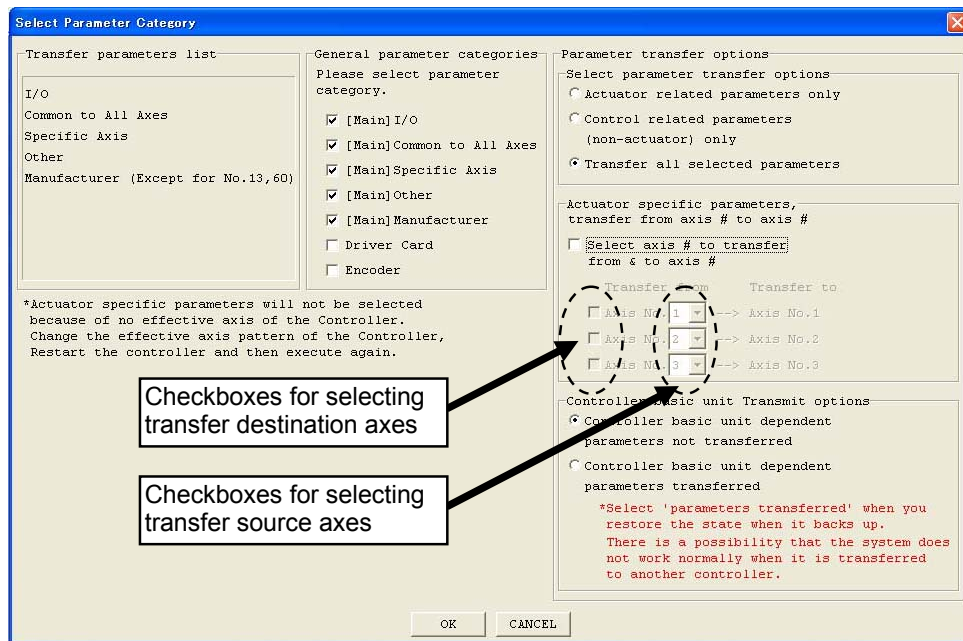
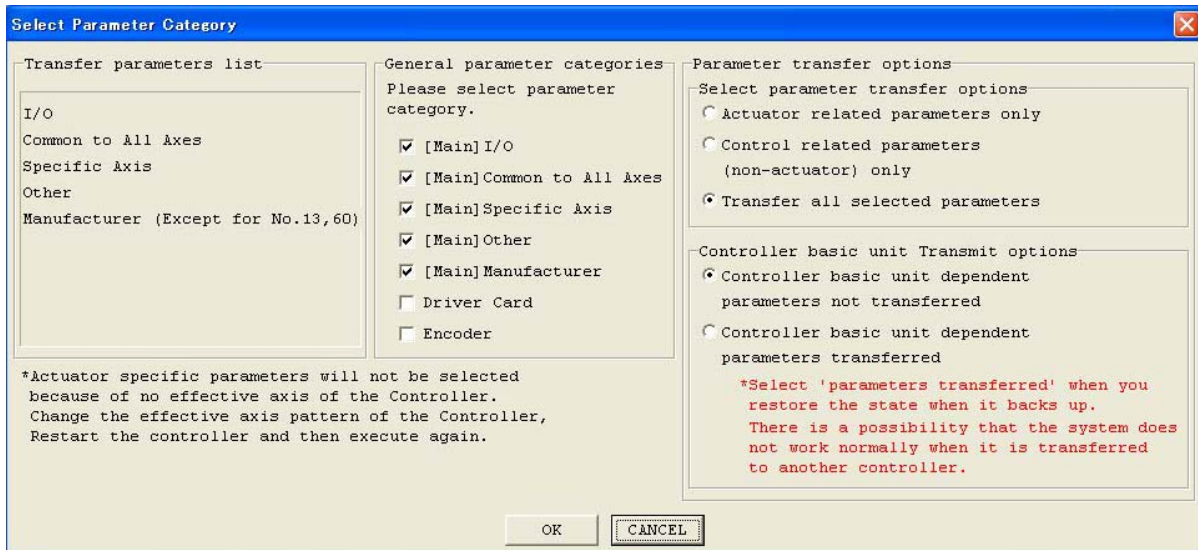
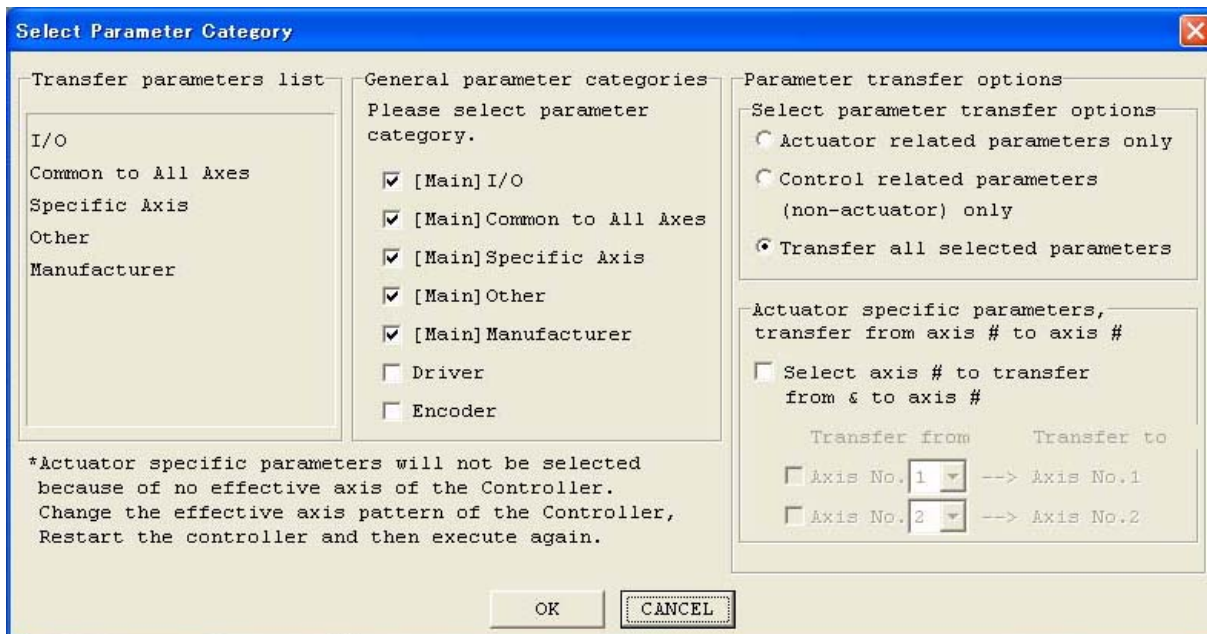

Fig. 8.7 Select Parameter Category Window
Fig. 8.8 Select Parameter Category Window (X-SEL-JX/KX)
Fig. 8.9 Select Parameter Category Window (SSEL, ASEL, PSEL)
- (1) Select **Open** from the **File** menu or click the corresponding button in the toolbar. In the file selection dialog box, select the parameter file (extension: .xpm) you want to transfer to the controller. Load the file into the PC software and open the parameter edit window.
- (2) Click the Transfer to Controller button in the parameter edit window.
- (3) The Select Parameter Category window (Fig. 8.7) will be displayed. In the case of X-SEL-JX/KX, the screen not showing Actuator specific parameters, transfer from axis # to axis # (Fig. 8.8) will be displayed. In the case of SSEL, the screen not showing Controller basic unit Transmit options (Fig. 8.9) will be displayed. This window has the following items: (The specific items will vary depending on the controller.)